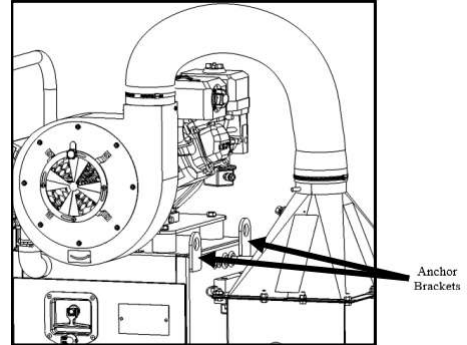

Figure 4
- Use the anchor brackets attached to the side of the unit (Fig. 4)